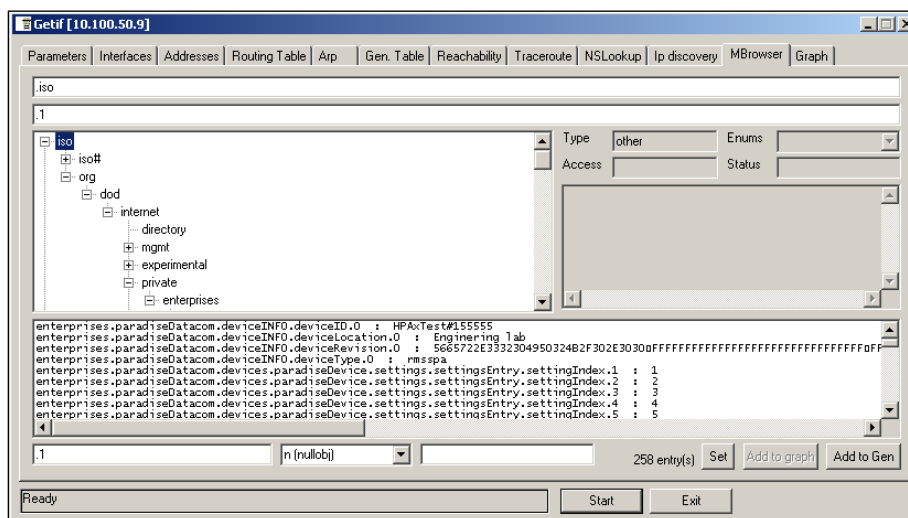

Figure 7-13: Getif MBrowser Window, With Update Data in Output Data Box
6. See update data in output data box (**Figure 7-13**).